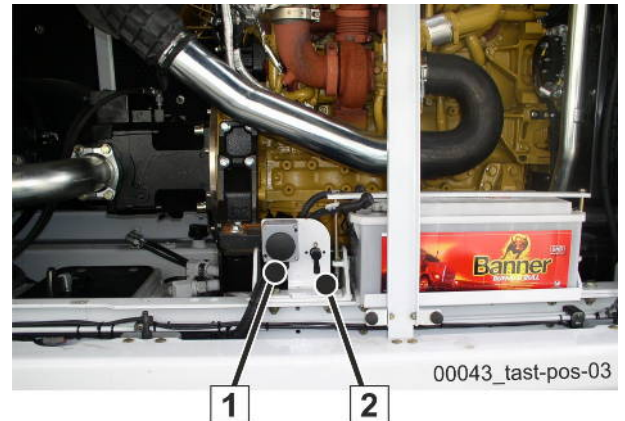

Fig. 19; position of the main switch (similar to illustration)
When working on the electrical system, performing maintenance and conducting repairs, your machine's power supply must always be switched off via the main switch (2) (Fig. 19) for the starter batteries.